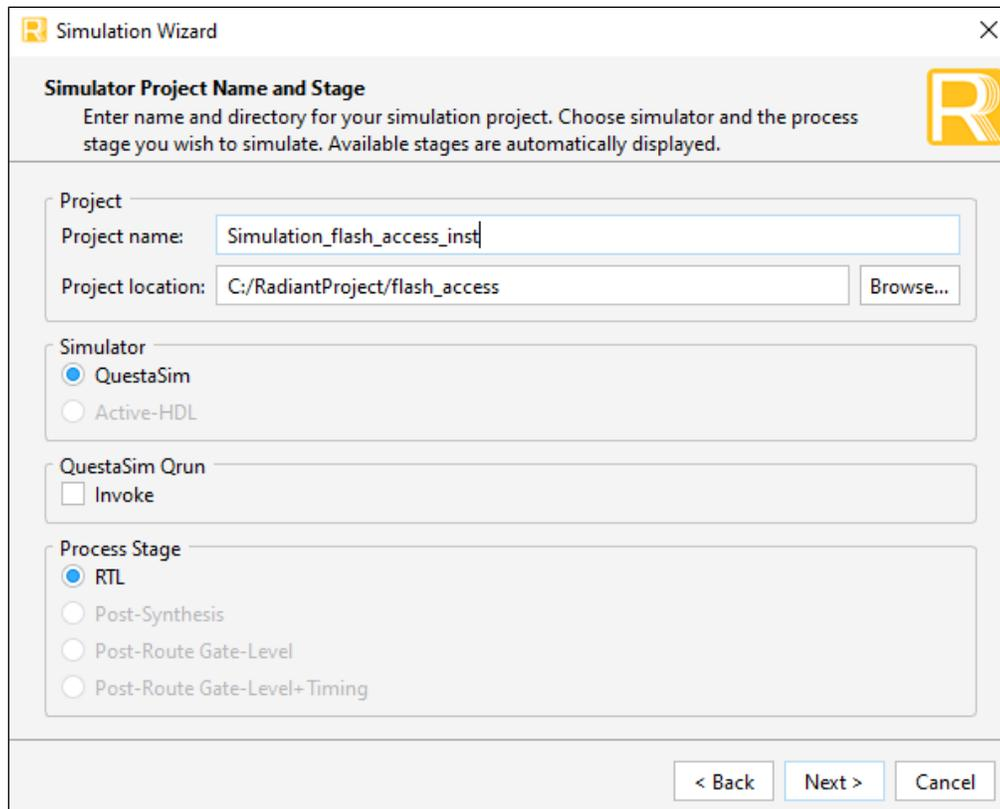

Figure 6.7. Simulation Wizard
1. Click the  button located on the **Toolbar** to initiate the **Simulation Wizard** shown in Figure 6.7.
2. Go to the project simulation directory used in running the default test sequence, it is the <Project location>/<Project name> provided in Figure 6.7. Copy the .mdo and .TXT files (Figure 6.10).